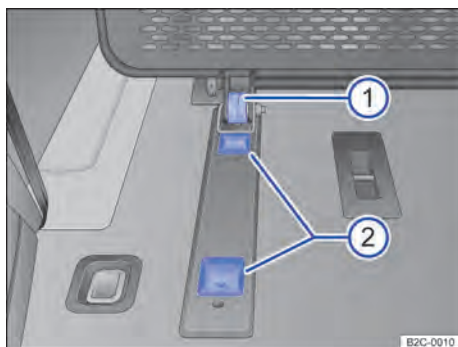

Fig. 154 In the luggage compartment: lower anchor point.
2. Push the bottom of the adjustable partition on the roller → Fig. 154 ① into the rear depression in the anchor point ②.
2. Push the bottom of the adjustable partition on the roller → Fig. 154 ① into the front depression of the anchor point → Fig. 154 ②.